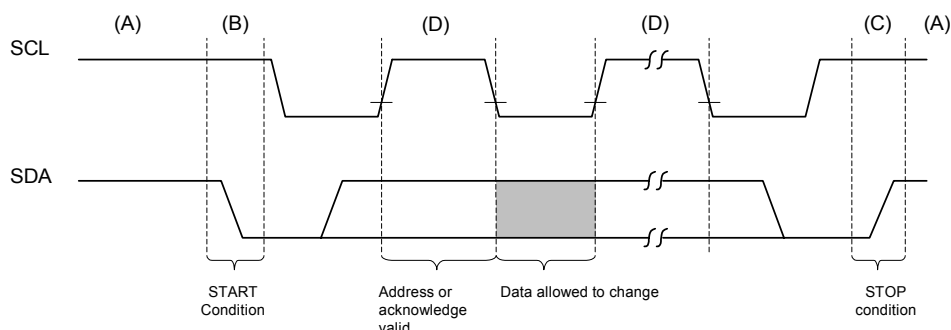

Figure 3-3. Data transfer sequence on the serial bus
- During data transfer, the data line must remain stable whenever the clock line is HIGH. Changes in the data line while the clock line is HIGH will be interpreted as a START or STOP condition. Accordingly, the following bus conditions have been defined (see Figure 3-3).
3.1.1 Bus not busy (A)